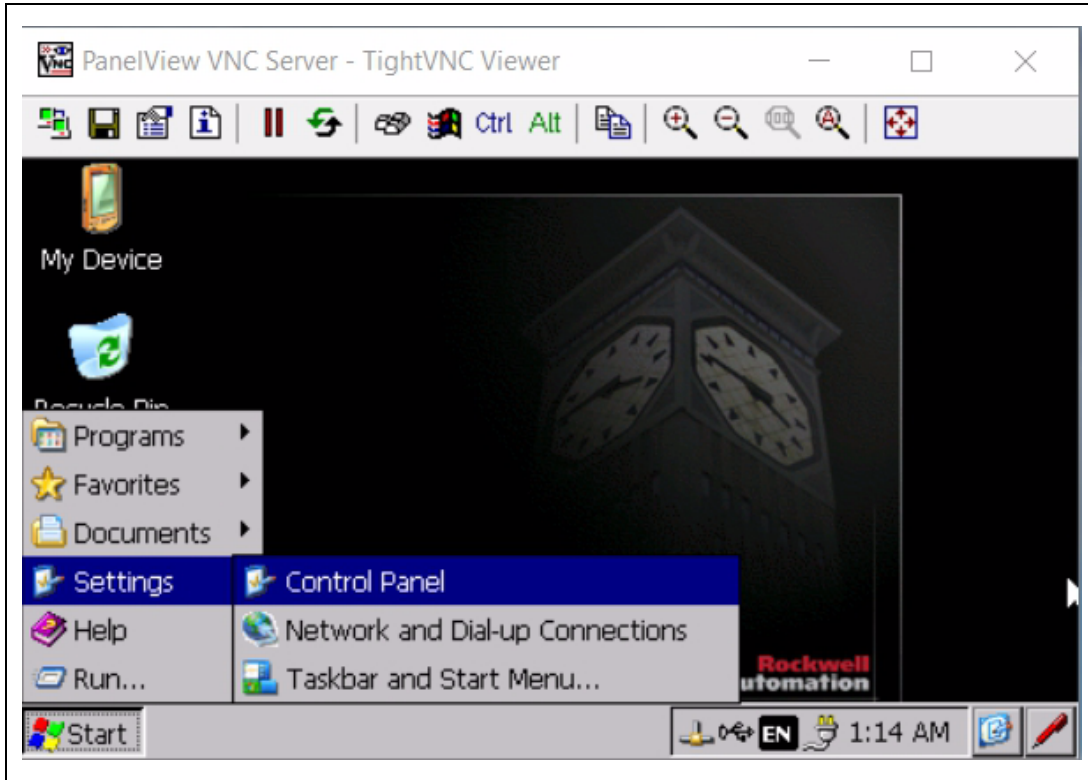

Figure 3H
5. Select Start, Settings and Control Panel as shown. (See Figure 3H.)